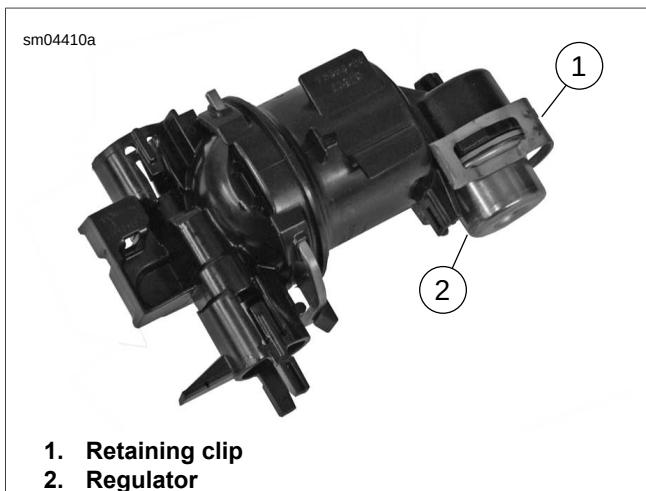
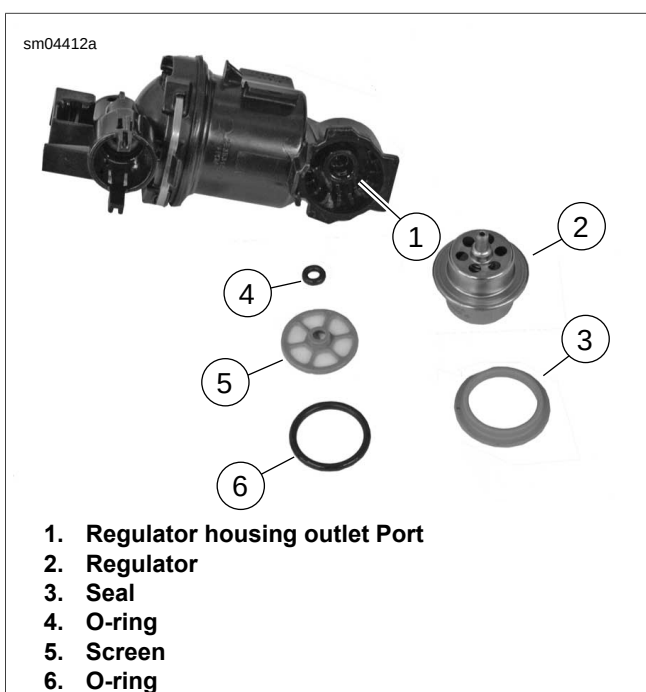

Figure 4-42. Fuel Regulator
Figure 4-43. Regulator Assembly
1. See Figure 4-42. Remove retaining clip (1).
2. Remove regulator (2).
3. See Figure 4-43. Check seal (3), O-rings (4, 6), and screen (5) for damage. Replace if necessary.
4. Install O-ring (4) in regulator housing outlet port (1).
5. Install screen (5) with inner shoulder facing O-ring (4).
6. Install O-ring (6) in regulator housing.
7. Place seal (3) on regulator (2) with shoulder facing away from regulator.
8. See Figure 4-42. Place regulator in housing and secure with retaining clip (2).